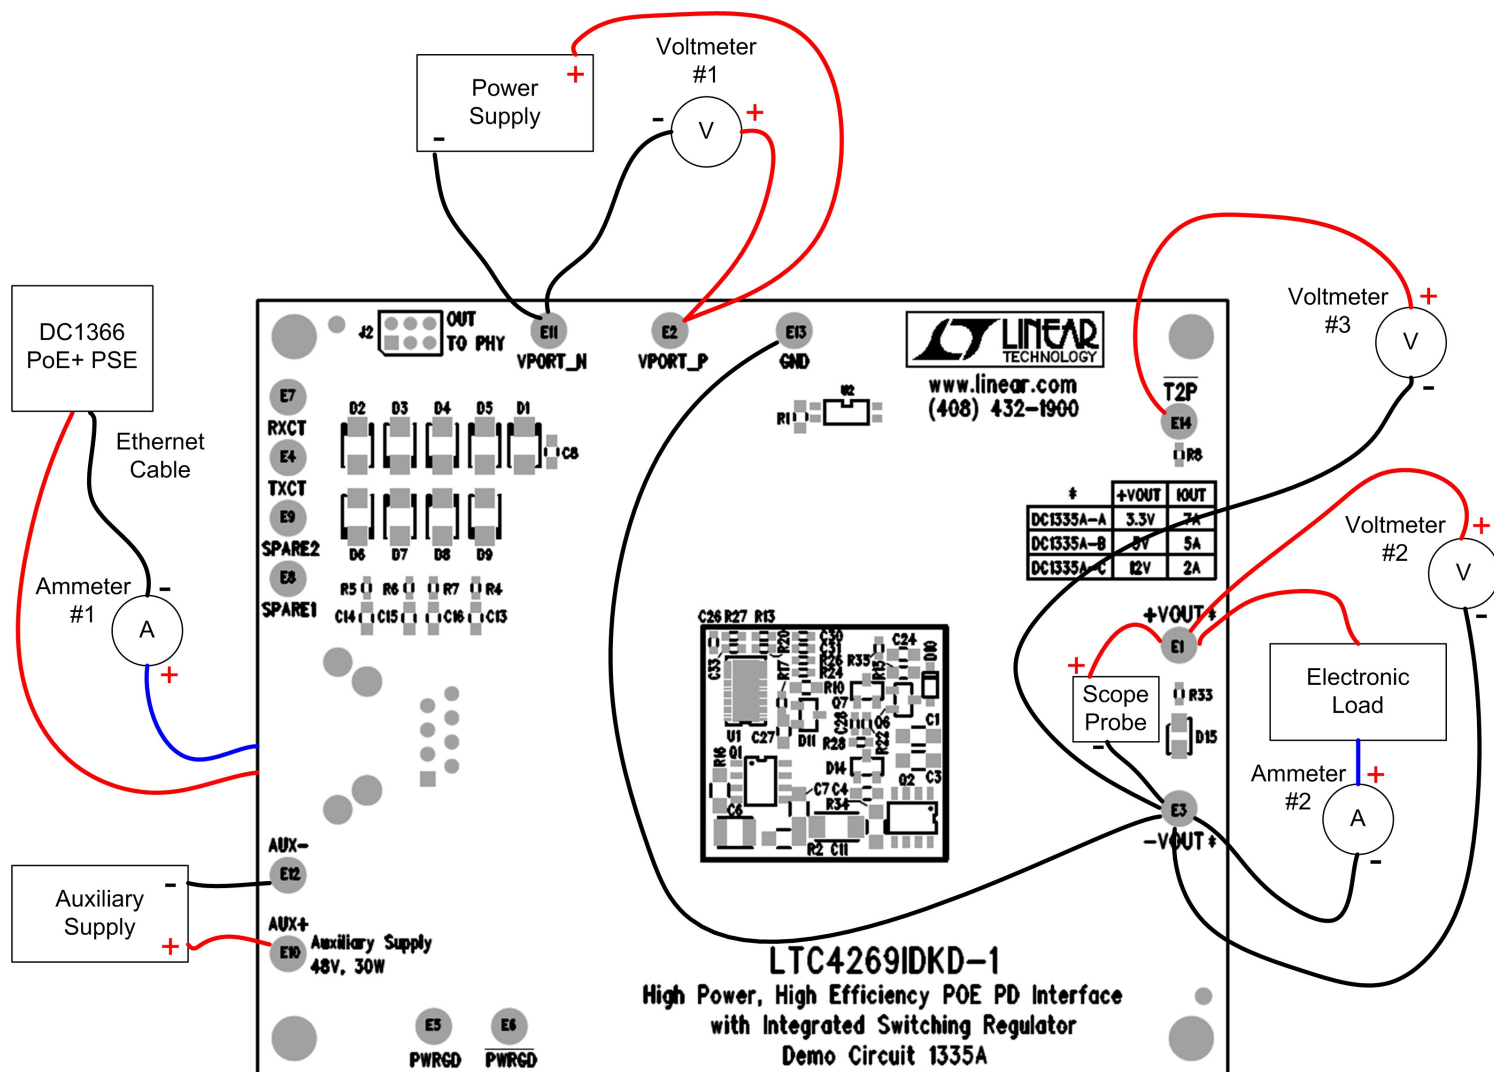

Figure 1. Proper Measurement Equipment Setup
Demonstration circuit 1335B-C is easy to set up to evaluate the performance of the LTC4269IDKD-1 in a PoE+ PD application. Refer to Figure 1 for proper equipment setup and follow the procedure below:
a. Connect a PoE+ capable PSE with a CAT-5 cable to the RJ45 connector, J1. See Figure 1.
b. Or, connect a 37V to 57V capable power supply (“Power Supply” in Figure 1) across V_{PORT_P} and V_{PORT_N} .
c. If evaluating the auxiliary power supply (“Auxiliary Supply” in Figure 1) capability, connect a 44V to 57V capable power supply across AUX+ to AUX-.